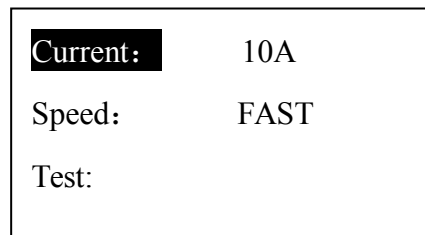

Fig.3 Main menu of the starting
2)、Current options: open the power switch, the screen will be displayed in figure 3, then can choose current through “select// test” button . Each click selection key, the screen will scroll in the current, 10A , 5A, 1A, 100mA, 4mA, 5A , 10A.....